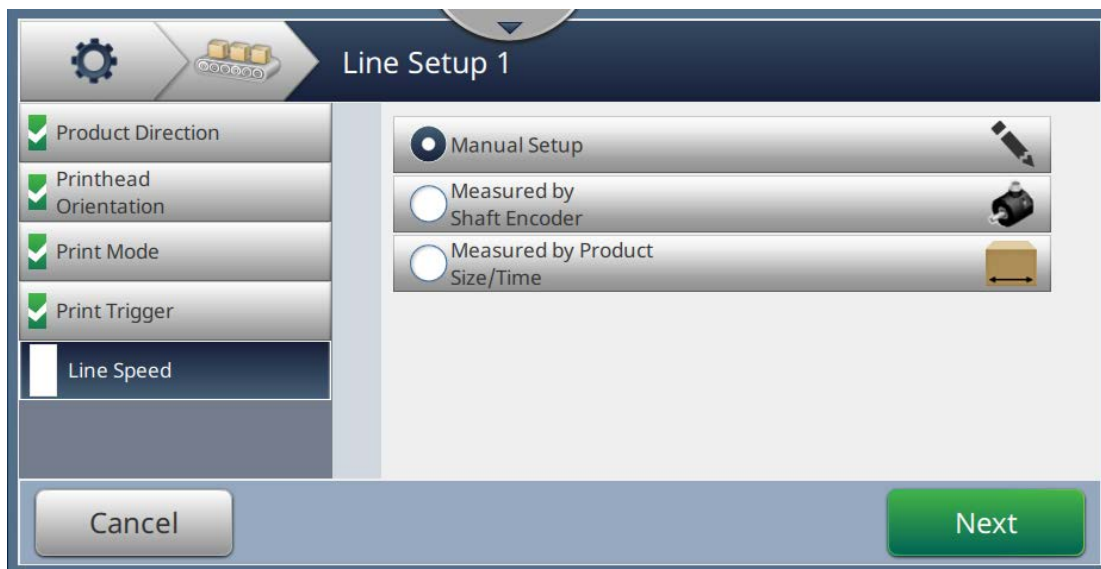

Figure 6-35: Line Setup - Line Speed
1. Touch the *Line Speed* in the Line Setup Setting screen, select the required line speed as shown in Figure 6-35. Touch the  button to set the line speed.
1. Select the *Manual Setup* as shown in Figure 6-35. Touch the  button to enter the required settings.
1. Select the *Measured by Shaft Encoder* as shown in Figure 6-35. Touch the  button to enter the required settings.
1. Touch the *Measured by Product Size/Time* as shown in Figure 6-35. Touch the  button to enter the required settings.